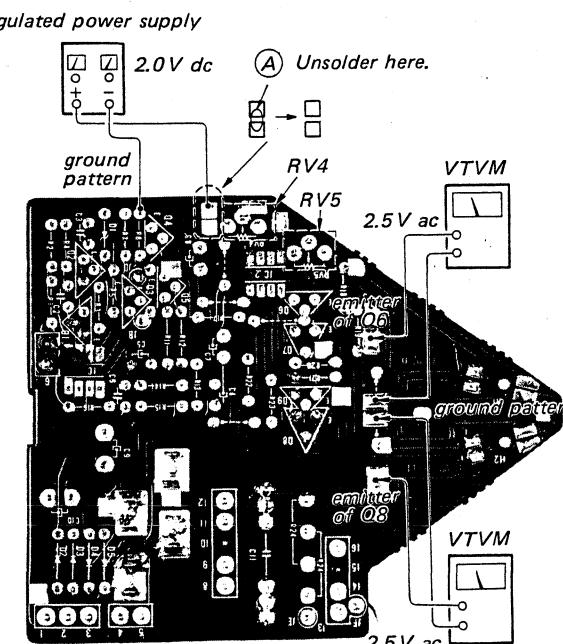

Fig. 6-1
2. Unsolder the portion shown by A and connect the regulated power supply as illustrated in Fig. 6-1.